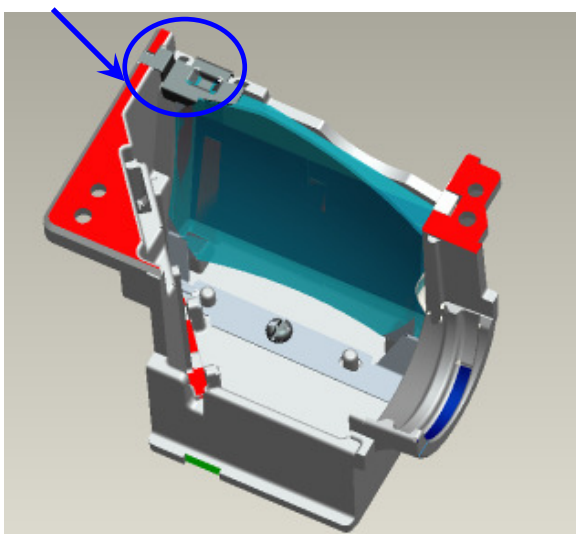

Fig. 2-4
- iv. Assemble Clip CM Up to Sub HSG & Check the feature for Clip CM Up XGA. (Fig. 2-4).